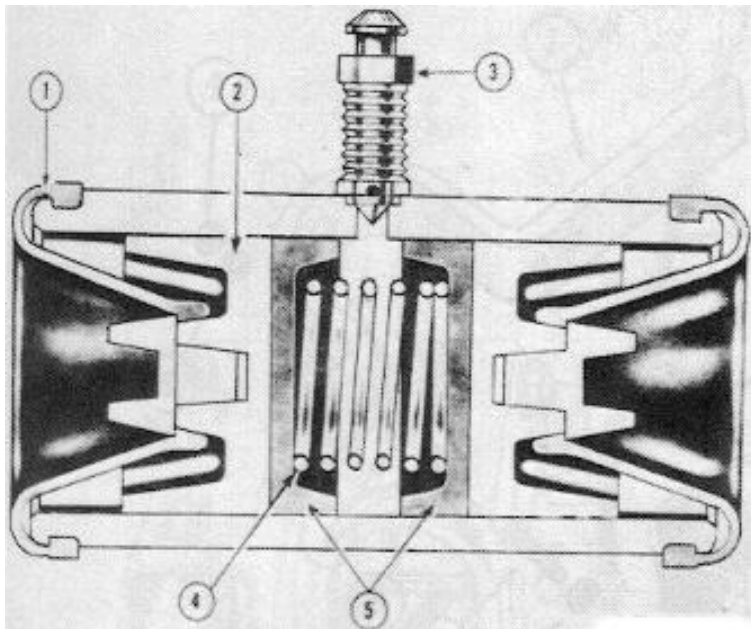

Figure 2-84. Brake wheel cylinder.
- (e) Remove two bolts and lock washers which secure wheel cylinder to flange plate and remove wheel cylinder. (Fig 2-84)